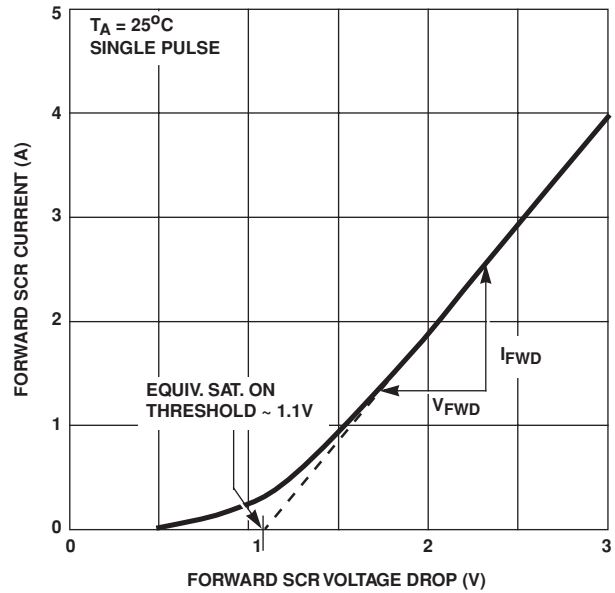

FIGURE 3. HIGH CURRENT SCR FORWARD VOLTAGE DROP CURVE
3. Refer to the Figure 3 graph for definitions of equivalent “SCR ON Threshold” and “SCR ON Resistance”. These characteristics are given here for thumb-rule information to determine peak current and dissipation under EOS conditions.